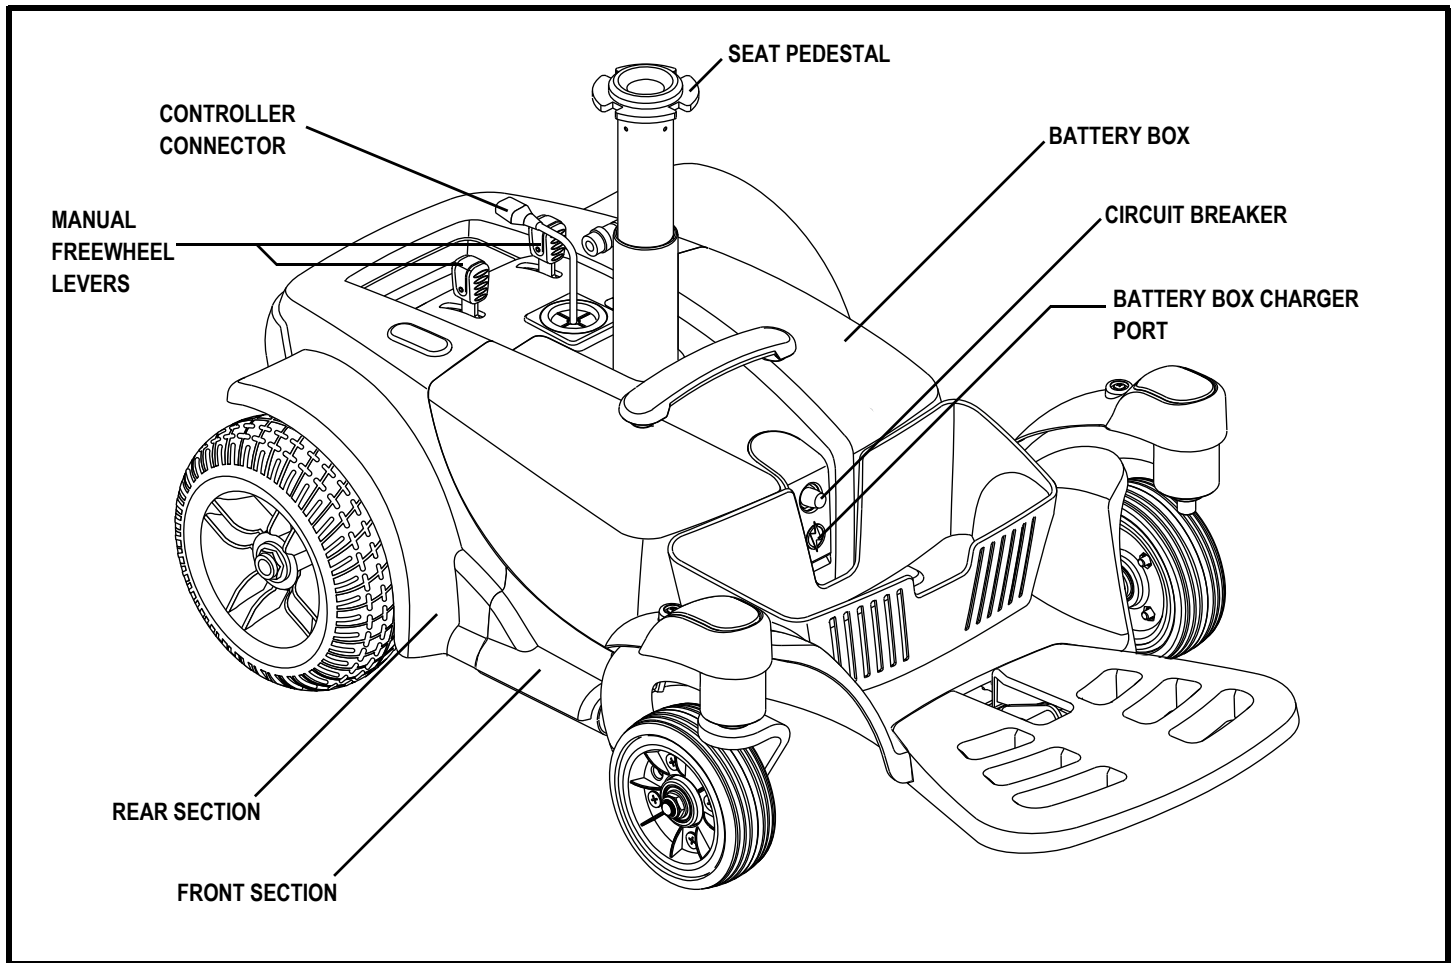

Figure 6. The Go-Chair Power Base
The electrical components are located on the power base. The main circuit breaker is located on the front of the battery box. The controller connector is located on the back of the power base. **See figure 6.**
7. Install the seat and plug the controller into the power base. See figure 6.